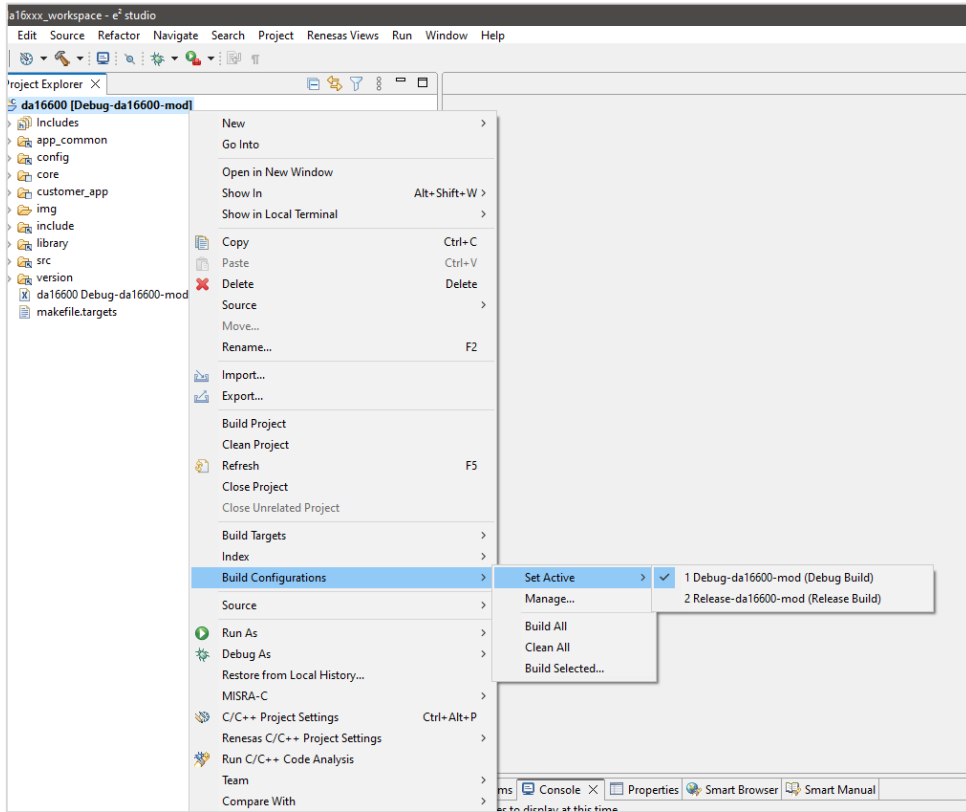

Figure 35. DA16600 build configurations
- DA16600 Build Configurations, see Figure 35.